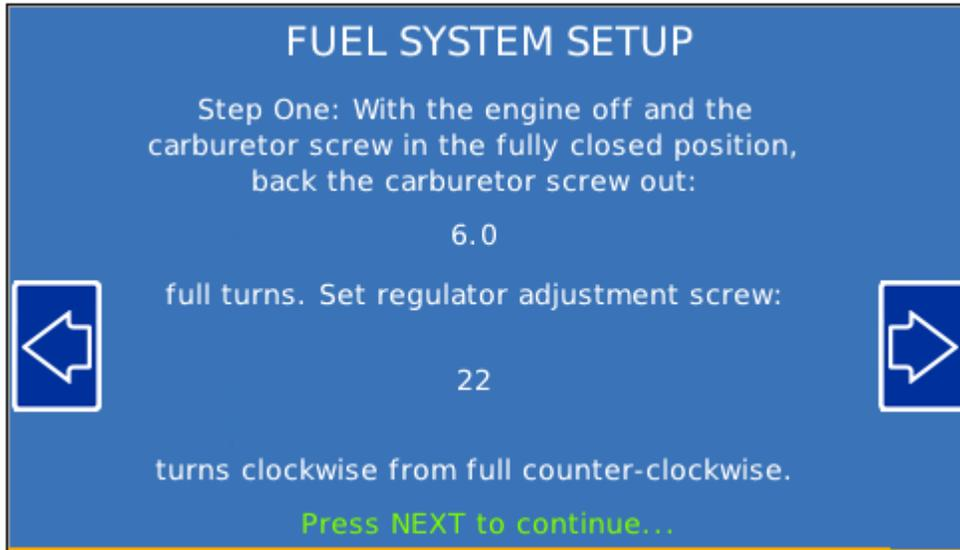

Figure 10 Step one: Fuel Setup Screen
- Remove the cap from the regulator tower and turn the regulator adjuster fully counter clockwise (**CCW**). Turn the regulator adjuster clockwise (**CW**) the number of turns shown on HMI “Fuel Setup Screen” in Figure 10. See Figure 12 for regulator adjustment. Proceed to next screen.